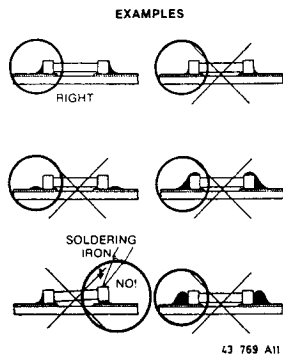

Fig. 6
- The quantity of solder must be proportional with the size of the solder land. If the quantity is too great, the SMD might crack or the solder lands might be torn loose from the printed board (see Fig. 6).